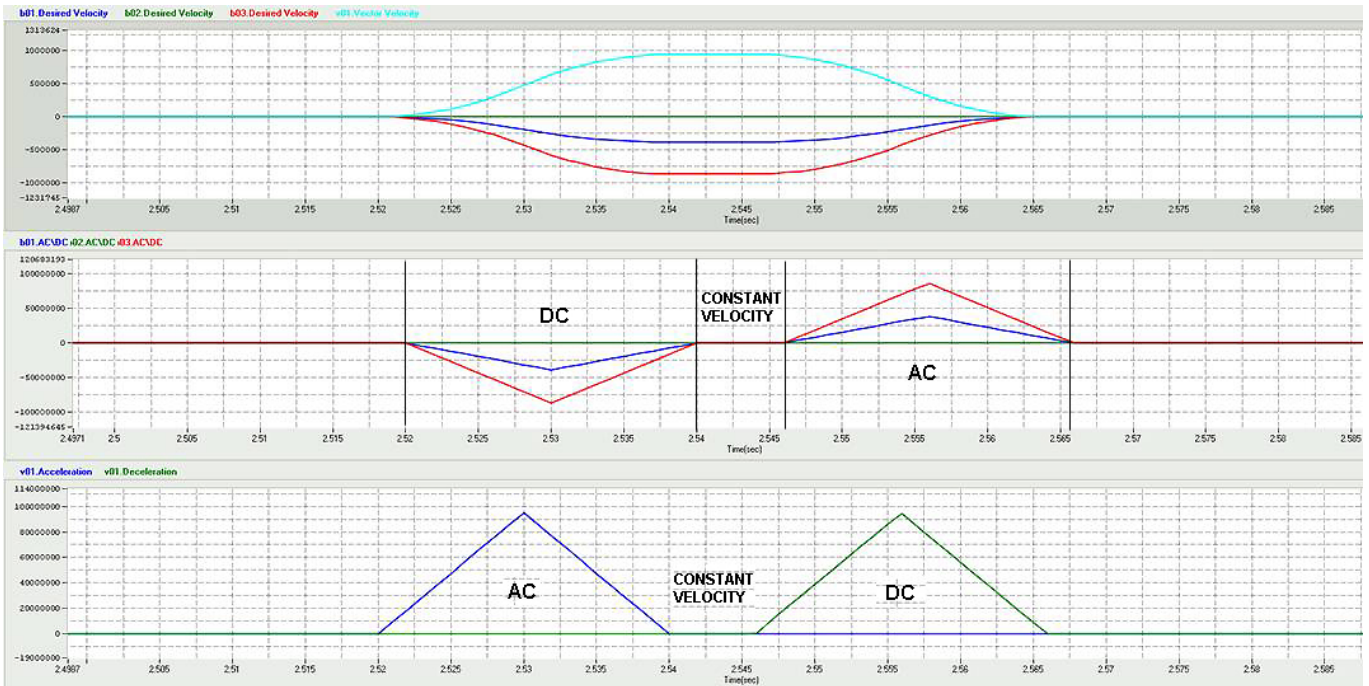

Figure 5-5 Example of Acceleration/Deceleration axis bits
By definition, both the Axis, Vector, Accelerating (AC), Decelerating (DC), and Constant Velocity, State Bits will be set according to the sign of the velocity derivative. Therefore, in reference to Figure 5-5, the example shows the changes in state between AC, DC, and at constant velocity.